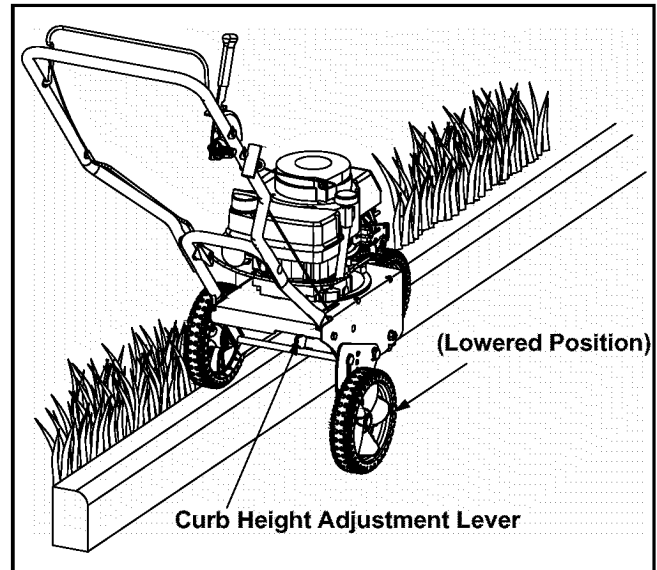

Figure 13
- Release the curb height adjustment lever to lock the wheel in position. See Figure 13.